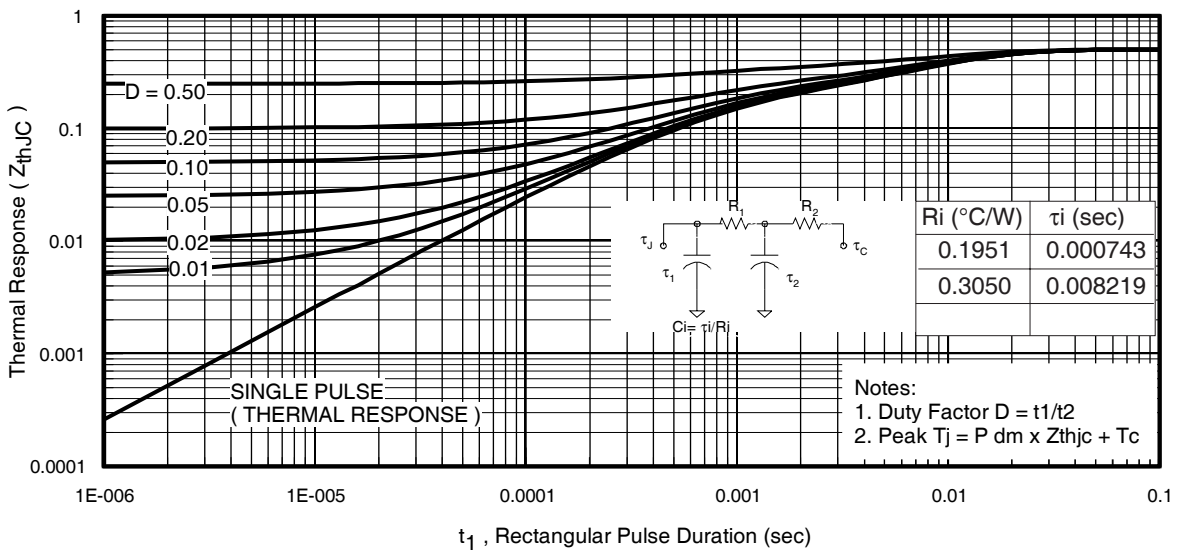
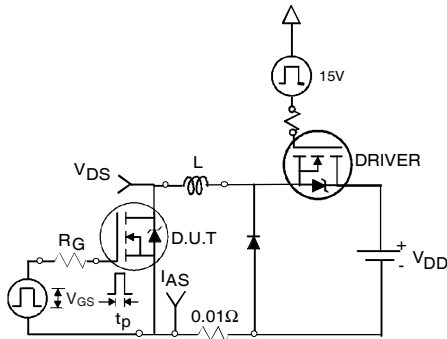

Fig 11. Maximum Effective Transient Thermal Impedance, Junction-to-Case
Fig 12a. Unclamped Inductive Test Circuit
- ① Repetitive rating; pulse width limited by max. junction temperature. (See fig. 11).
- ② Limited by T_{Jmax} , starting $T_J = 25^\circ\text{C}$, $L=0.049\text{mH}$, $R_G = 25\Omega$, $I_{AS} = 160A$, $V_{GS} = 10V$. Part not recommended for use above this value.
- ③ Pulse width $\leq 1.0\text{ms}$; duty cycle $\leq 2\%$.
- ④ $C_{oss\text{ eff.}}$ is a fixed capacitance that gives the same charging time as C_{oss} while V_{DS} is rising from 0 to 80% V_{DSS} .
- ⑤ Limited by T_{Jmax} , see Fig.12a, 12b, 15, 16 for typical repetitive avalanche performance.
- ⑥ This value determined from sample failure population. 100% tested to this value in production.
- ⑦ This is applied to D²Pak, when mounted on 1" square PCB (FR-4 or G-10 Material). For recommended footprint and soldering techniques refer to application note #AN-994.
- ⑧ R_θ is measured at T_J of approximately 90°C .
3. Equation below based on circuit and waveforms shown in Figures 12a, 12b.
$Z_{thJC}(D, t_{av})$ = Transient thermal resistance, see figure 11)